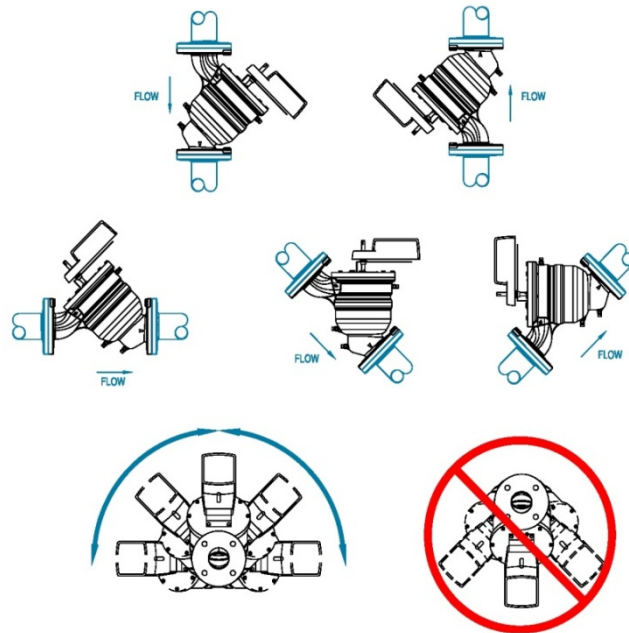

Figure 6: Installation Orientation
1. Confirm that the valve tag corresponds to the proper installation location. Install valve so that the flow is in the proper direction. A flow arrow is cast in the valve housing. Valve may be mounted in any position, except it is recommended that valves with actuators in horizontal pipe NOT be mounted with the stem in any position below horizontal, to reduce the chances of condensation (drips) from entering the actuator mechanisms. Installation with the piston in the up position is preferred when possible. Refer to Figure 6. There are no restrictions regarding length of straight pipe at the inlet or outlet of the valve.
- The valve should be mounted to allow unrestricted access to the P/T taps; install the three P/T plugs (if shipped loose) into the valve body taps (ref Figure 6). Plug extensions are available from factory to allow for access through insulation.
- Model HDP DeltaPValves are furnished standard with a 5-70 psid (35-480 kPa) range (minimum 5 psi / 35 kPa ΔP) over which the valve will operate in a pressure-independent manner. This ΔP can be measured between P/T Plugs P₁ and P₃ - see the Figure 6. Optionally, the valve may be provided with a 10-90 psi range (minimum 10 psi / 620 kPa ΔP).